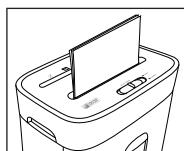

Fig. 7
Insert paper into the middle of the cutter opening for paper ⑨ from above and in portrait format (see fig. 7). The appliance starts automatically and switches itself off automatically if no further paper is inserted.